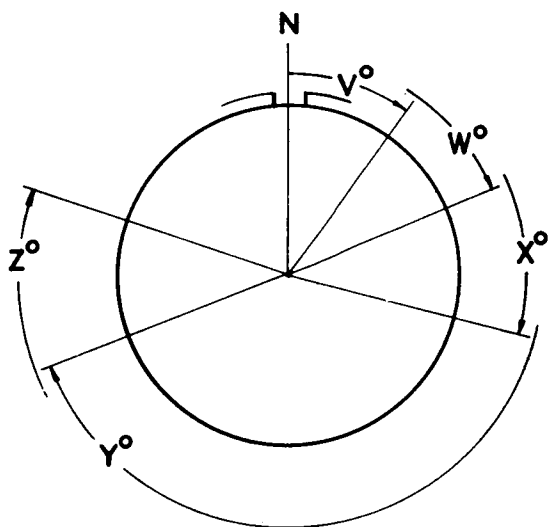

Fig. 3. Insert positions
6. Fig 3 shows the position of the insert for the available insert orientation. Connectors cannot be re-orientated after manufacture.